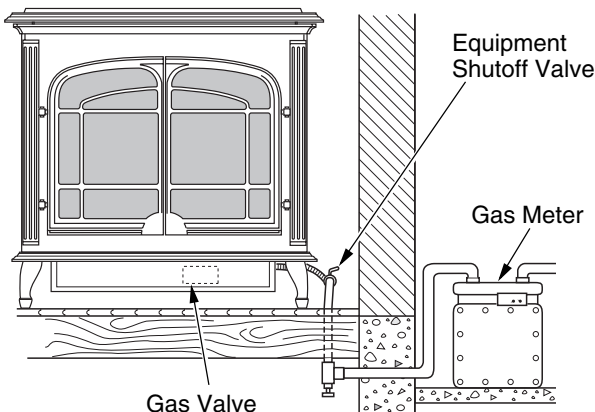

Figure 32 - Checking Gas Joints for Natural Gas Burner System (Oxford™ Model Shown)
3. Check all joints from propane/LP supply tank or gas meter to equipment shutoff valve (see Figure 31 for propane/LP or Figure 32 for natural, page 15). Apply noncorrosive leak test solution to all gas joints. Bubbles forming show a leak. Correct all leaks at once.
4. Check all joints from equipment shutoff valve to thermostat gas valve (see Figure 31 for propane/LP or Figure 32 for natural, page 15). Apply commercial leak test solution to all gas joints. Bubbles forming show a leak. Correct all leaks at once.